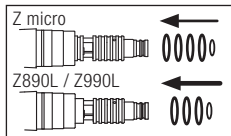

Fig. 38
- ➌ Insert the complete set of new O-rings in the correct grooves (Fig. 38).